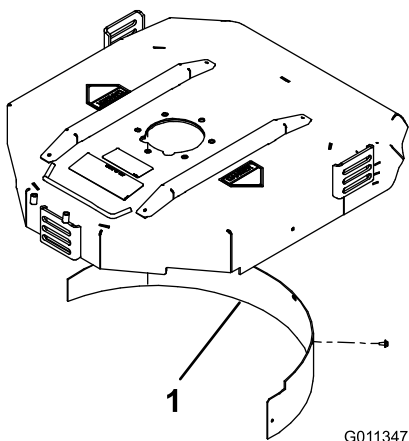

Figure 12
- Install the mulching baffle in the rear opening and secure it with 5 flange head bolts (Figure 12).